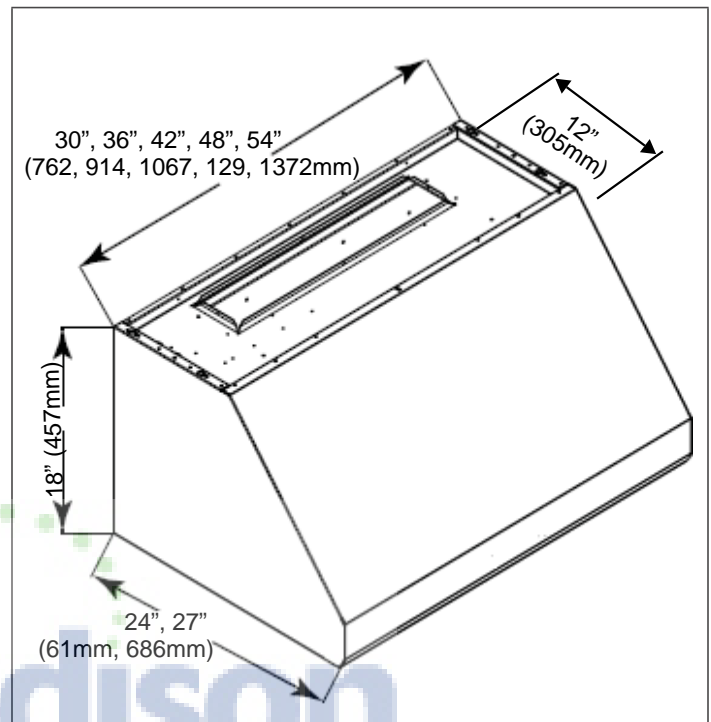

Figure 1: Pro 24" & 27" Wall Hoods
- 27" Pro Wall Hood models (PHxxGS), 27" (686mm) in depth, with widths of 36" (914mm), 42" (1067mm), 48" (1219mm), and 54" (1372mm). This model series features brushed stainless-steel canopy with halogen lamps and heat lamps (see Figure 1).
- 24" Pro Wall Hood models (PHxxHS), 24" (610mm) in depth, with widths of 30" (762mm), 36" (914mm), and 48" (1219mm). This model series features brushed stainless-steel canopy with halogen lamps (see Figure 1).